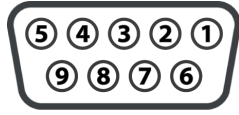

Figure 2-4: Port A/Port B pinout
- The serial ports operate at the RS-232 interface level to communicate with external data loggers, navigation systems, and other devices. Either serial port can also be used for firmware updates. Figure 2-4 illustrates the numbering for the female DB9 port (the numbering for each male connector is a mirror reflection of Figure 2-4) and Table 2-1 provides the pin configuration for the serial ports